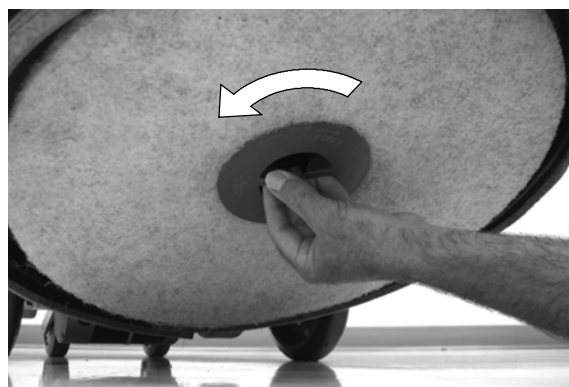

FIG. 25
1. Remove the burnishing pad and clean or replace (Figure 25).